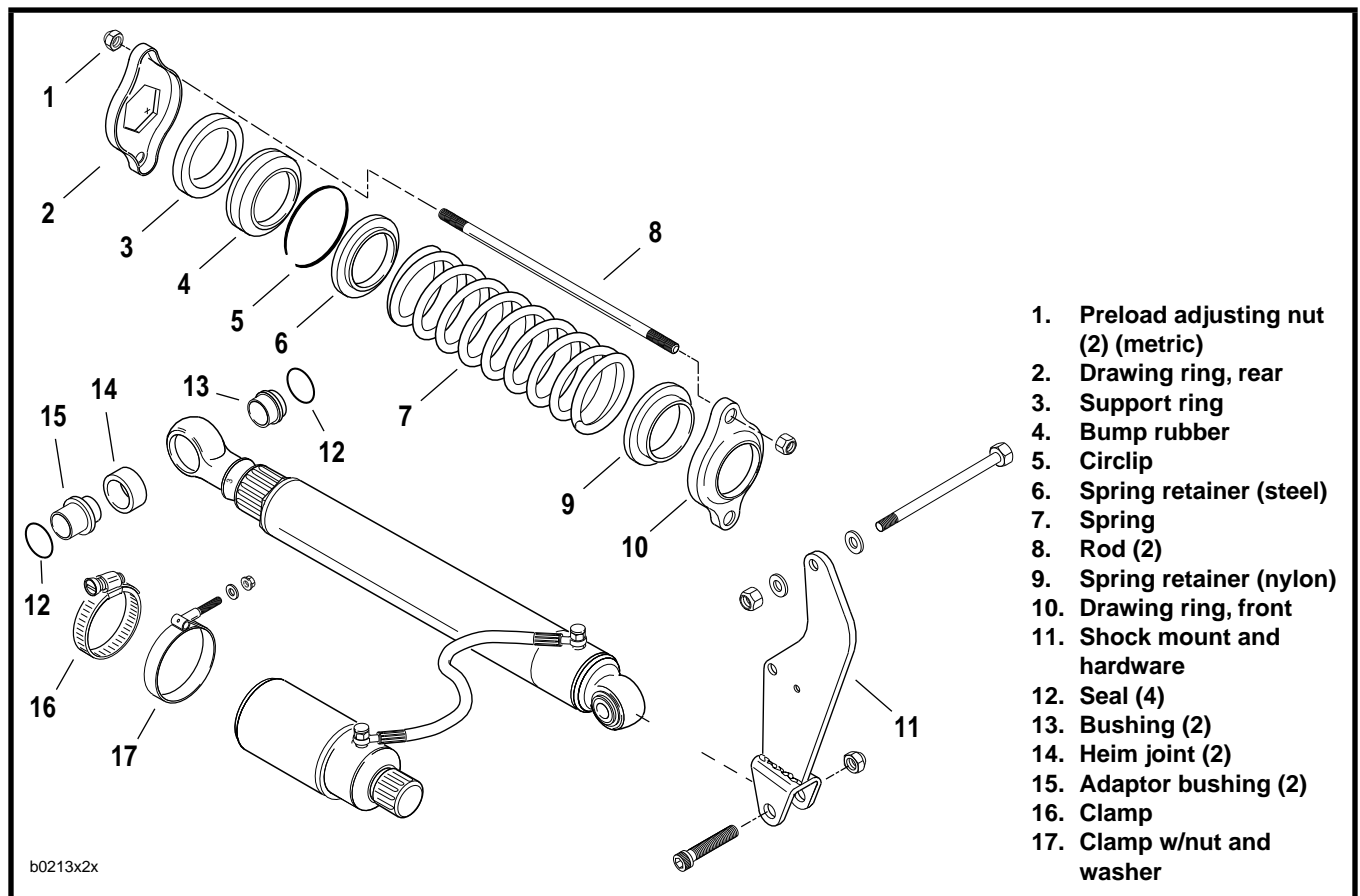

Figure 2-43. Rear Shock
4. See Figure 2-43. Remove rear drawing ring (2).
5. Remove support ring (3) and bump rubber (4).
6. Remove circlip (5) on end of shock cartridge.
7. Remove steel spring retainer (6).
8. Remove spring (7).
1. See Figure 2-43. Install spring (7).
2. Install steel spring retainer (6).
3. Install circlip (5) on end of shock cartridge.
4. Install bump rubber (4) and support ring (3).